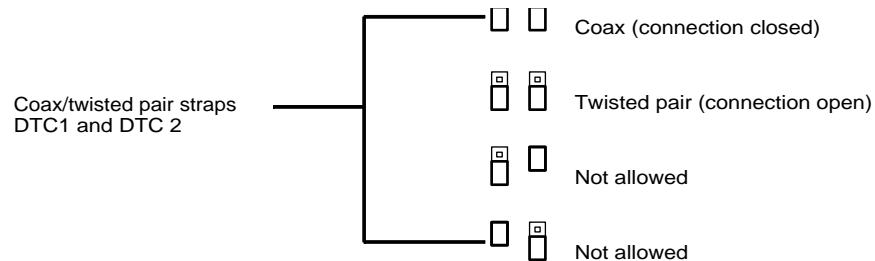

Fig. 11-1 Strap Settings DTC1/DTC2
By means of straps, the type of cable to be used can be selected: coaxial pairs or 120 ohm twisted pairs (symmetrical). In Figure 11-1 an overview of the strap settings is given, for the location refer to Figure 11-2.
1. Place the DTU-E1 Firmware Set PROMs into the IC sockets as indicated and check the strap settings (see Figure 11-1).